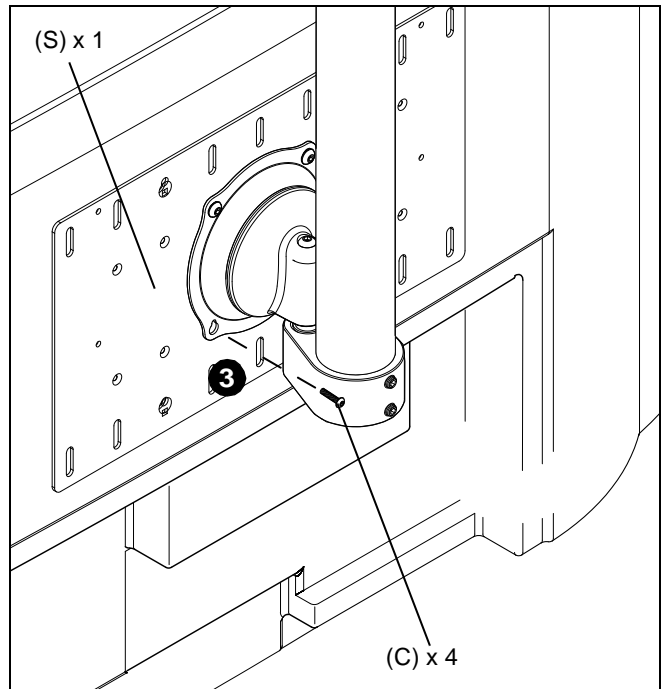

Figure 9
3. Hold display so that display back is against Centris cup and install two Phillips pan head machine screws (C) through lower mounting holes in Centris cup and into lower mounting holes in interface bracket (S). (See Figure 9)